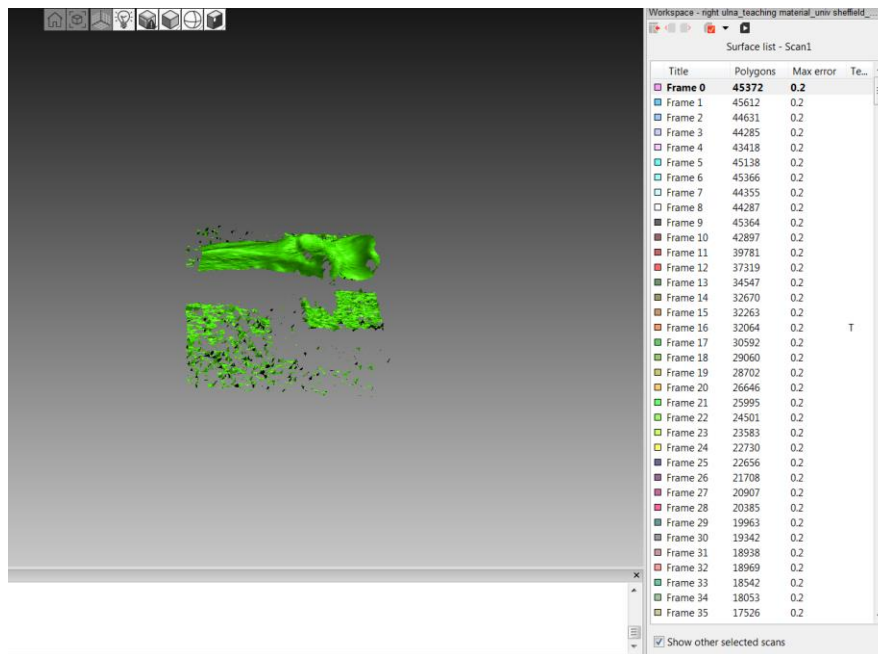

Figure 4. Frames within a scan.
11. Each bone scan is composed of several frames (double click on a scan to open the information of the frames – Fig. 4). To return to the scans list, click on the red arrow. I would recommend eliminating frames with error of 0.3 or greater in Artec Spider and 0.6 or greater in Artec Eva in order to create an optimized 3D digital model. Higher values are suggested for Artec Eva due to its lower resolution in contrast to Artec Spider. By eliminating frames with error size equal to or superior to a value, a lower error results after conducting global registration.